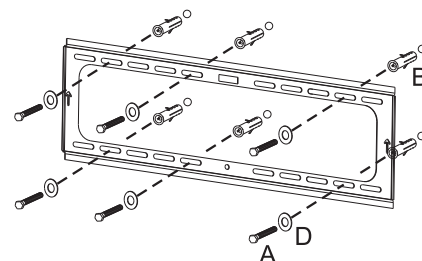

Figure 3 – Attach wall plate to wall.
4. Attach wall plate by inserting coach screws (A) through round washers (D) into each masonry anchor (B) and tighten. Do not over tighten. See Figure 3.